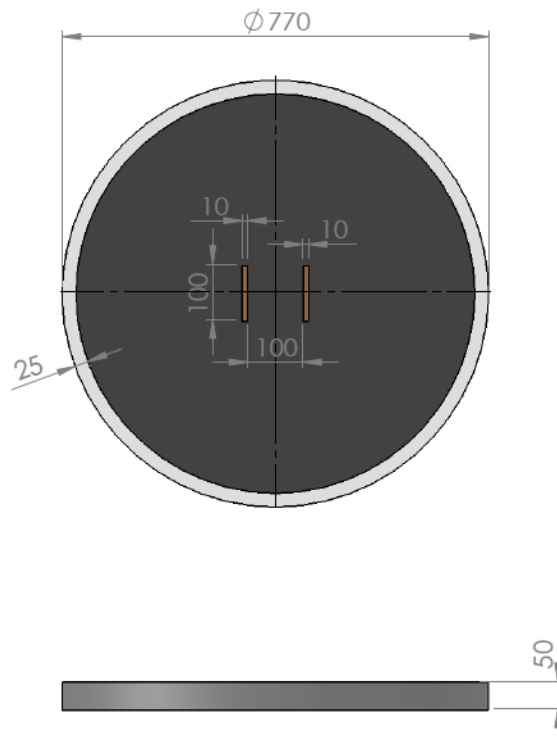

Figure 2 Dimensions of Dohyo for Mini Sumo Robot Competition(mm)
- Before the match, Sumo robots should be placed manually at the same time according to rules shown at Figure 2. It is not allowed to change the position of robots once they were placed on Dohyo.